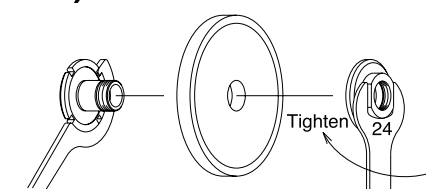

Fig.6
- ② Fasten the grindstone to the flange with the 24 mm spanner and the hook spanner. (For O.D.45 mm) (Fig.6)